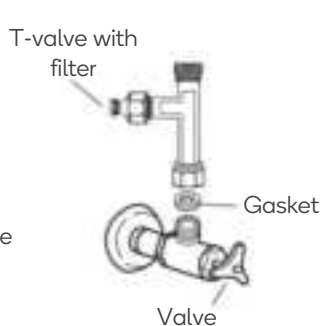

Figure 2
- Connect T-valve with filter to the inlet valve (Figure 2).